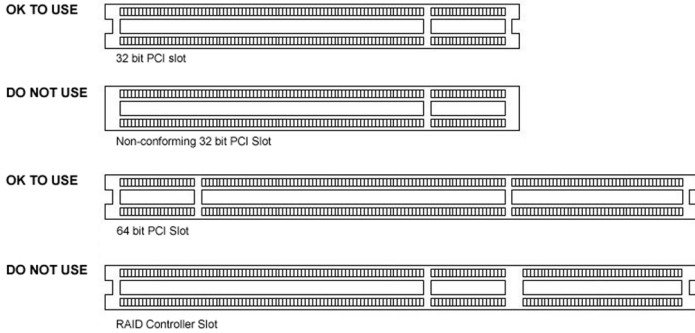

Figure 3: PCI and RAID Controller Slots
4. Install the BarcoMed CORONIS Controller into a free PCI slot, either 64-bit or 32-bit (see figure 3, for examples of slots). Be sure that the display controller is seated firmly in the slot.